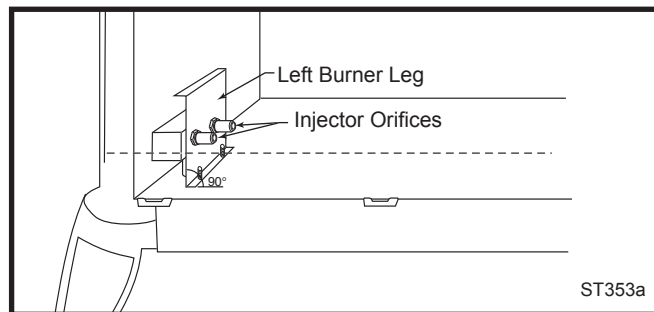

Fig. 61 Remove and replace injector orifices.
8. Remove injector orifices from left burner leg using 1/2" wrench. (Fig. 61)
NOTE: It is very critical to keep the left burner leg, which holds the injectors, at a 90° angle to the base. (Fig. 61) This keeps the orifices aligned with the tubes inside burner. Failure to do so could affect the flame appearance and performance of the unit.